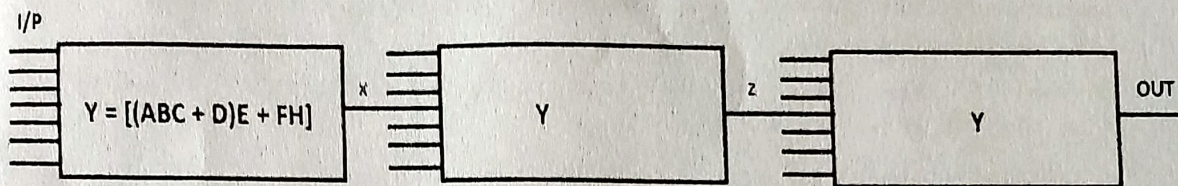

FIG. 2
- The function block of part (a) is now used in a circuit as shown in Fig. 2. Inputs to each block are different. It is intended to insert buffers to achieve the lowest possible delay. Given the propagation delay of the buffer for the technology is 30ns, mark the nodes where buffers are to be inserted and justify.